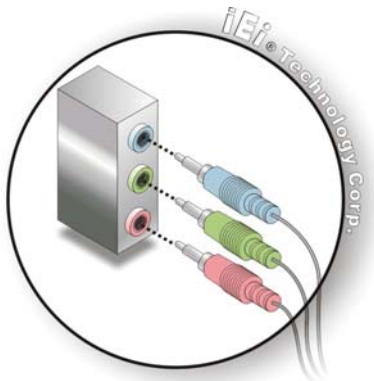

Figure 0-20: Audio Connectors
Step 2: Insert audio phone jack plugs. Insert audio phone jack plugs into the audio phone jacks on the external peripheral interface. See Figure 0-20.